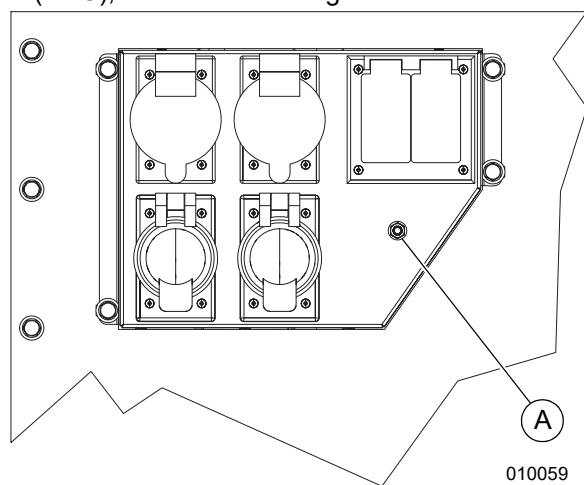

Figure 3-5. Receptacle Panel, Grounding Stud (A)
See Figure 3-5. This unit is equipped with a receptacle panel for running accessories or tools from the generator. Power is supplied to the receptacles any time the engine is running and the main circuit breaker is switched to ON (I). Each receptacle has an individual circuit breaker, located inside the cabinet under a flip-up cover. Each circuit breaker corresponds with the receptacle located below it on the receptacle panel.